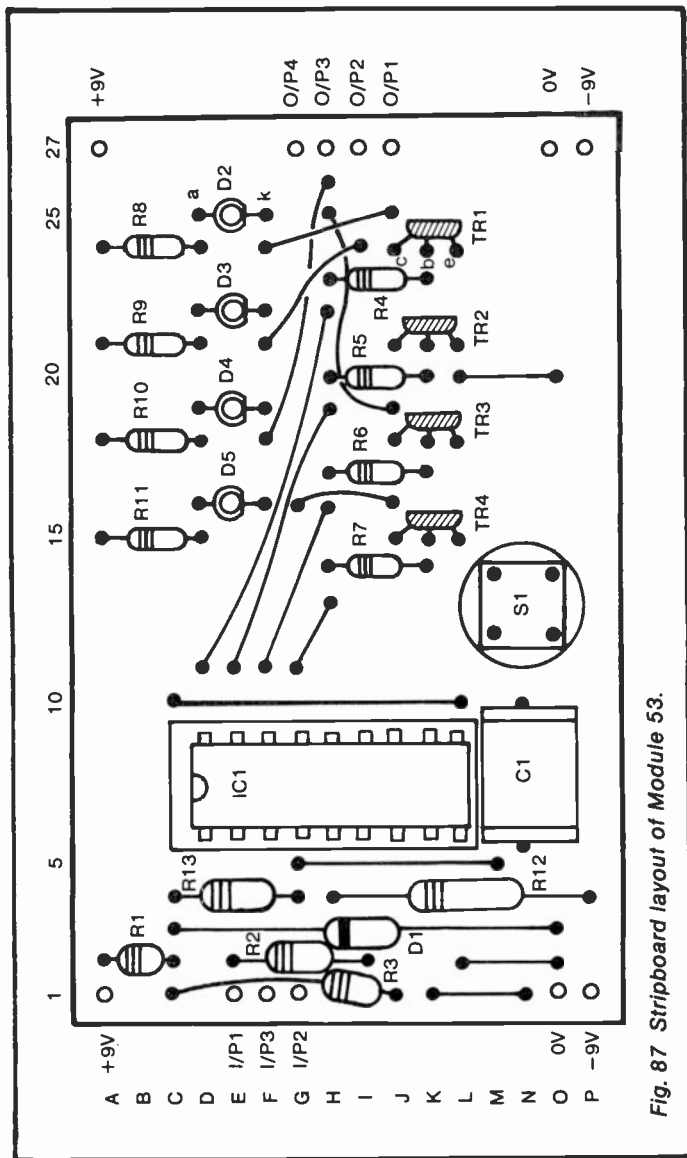

Fig. 87 Stripboard layout of Module 53.
*Stripboard layout:* see Figure 87. Cut strips beneath the board at D7 to L7, D12 to L12, D17, D20, D23, E3, F17, F20, F23, H15, H18, H21, H24, J17, J20, J23, K16, K19, K22, and N7. Solder blobs join D6 to E6, J6 to K6, F16 to G16, I22 to J22, and N10 to O10.